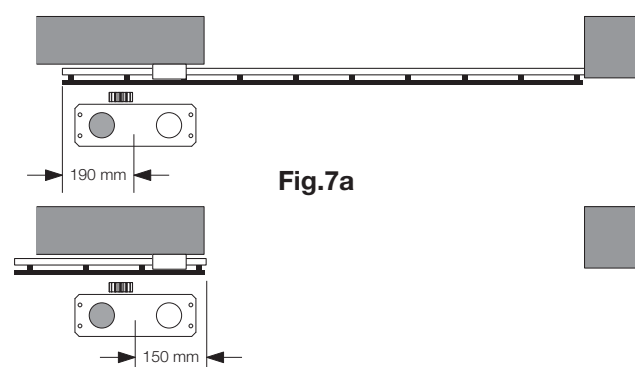

Fig.7a
- Considering the measurements indicated in figures 7a and 7b, mark the first drilling point. Block the rack temporarily, using a clamp for example (Fig.21).